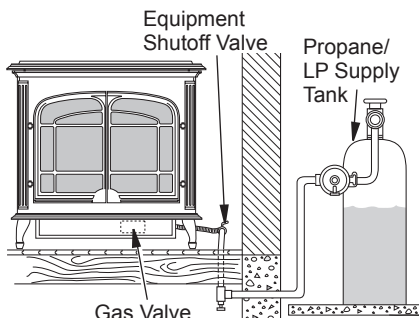
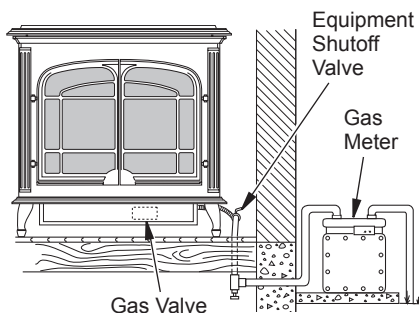

Figure 32 - Checking Gas Joints for Propane/LP Gas Burner System
Figure 33 - Checking Gas Joints for Natural Gas Burner System
- Check all joints from propane/LP supply tank or gas meter to equipment shutoff valve (see Figure 32 for propane/LP or Figure 33 for natural gas). Apply noncorrosive leak test solution to all gas joints. Bubbles forming show a leak. Correct all leaks at once.
- Check all joints from equipment shutoff valve to thermostat gas valve (see Figure 32 for propane/LP or Figure 33 for natural). Apply commercial leak test solution to all gas joints. Bubbles forming show a leak. Correct all leaks at once.